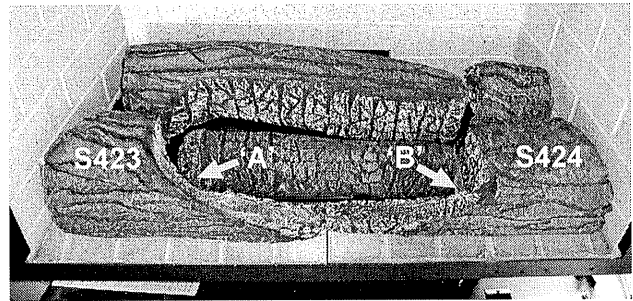

Figure I-2
- D) Place the 'S423' & 'S424' logs over the bottom refractory panels, aligning the offset ends at the center. Figure I-2.